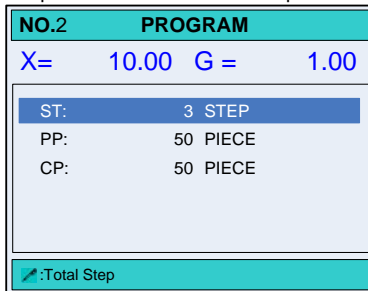

Figure 3-4 The **PROGRAM** page
Step 3 Select the target Program-Number, such as **2program** and press  to enter **PROGRAM** page, as shown in Figure 3-4.